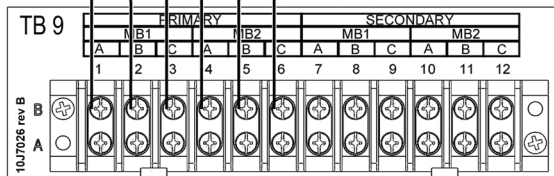

Figure 34. Modbus Connections (for Lead Lag)
are arranged in a “daisy chain.” The wiring from the Secondary controller on one boiler (TB9 - pins 7 through 12) to the Primary controller on the next boiler (TB9 - pins 1 through 6). See Figure 34. Use 22 AWG or thicker shielded twisted pair wire with drain. Two twisted pairs or three conductors are needed.
2. Figure 34 shows how to make the connections. The following table lists the connections from Boiler 1 to Boiler 2.
3. Repeat the process for Boiler 2 and 3, and Boiler 3 and 4. The connections to the other boilers follow the pattern we just described. Use Figure 34 as your reference.